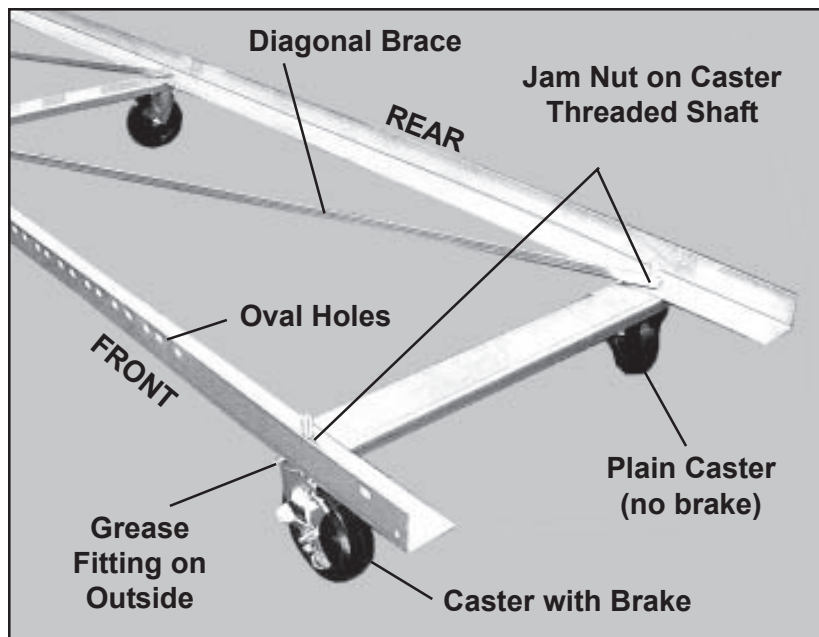

Figure 6. Casters Mounted on a Mobile Base
3. Take the casters (the smaller bases use four casters; the larger cages use six) and put the threaded shafts up through the screw holes in the frame rails and crossmembers (Figure 6). **Note:** Make sure that the ball-bearing grease fittings point outward (Figure 10). If they point inward, greasing these fittings will be very difficult indeed.